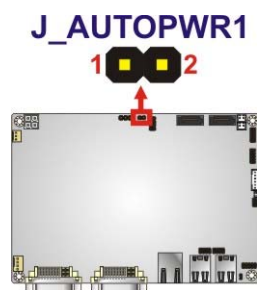

Figure 3-8: AT Auto Button Select Jumper Settings
- Jumper Location:** See Figure 3-8